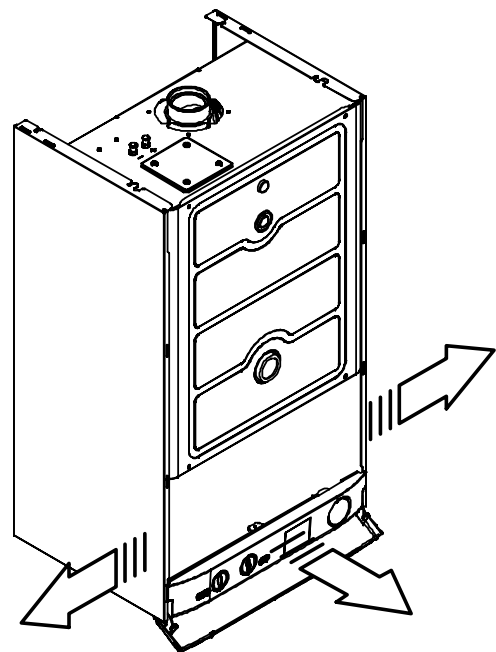

Fig. 6.13
- 4 Remove the side panels or move the lower part of the side panels as indicated in Fig. 6.13 and pull the control panel.